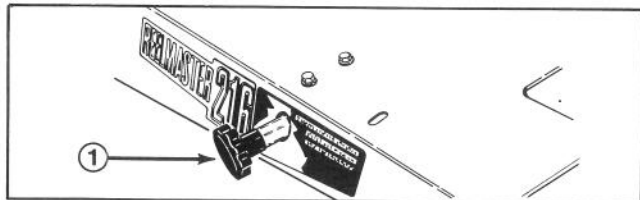

Figure 25
**Drive Engagement Control** (Fig. 25) — On lower left side of operator. Pull knob out for 2 wheel drive; push knob in for 3 wheel drive. Mower must come to a complete stop before shifting from 2 to 3 wheel drive.